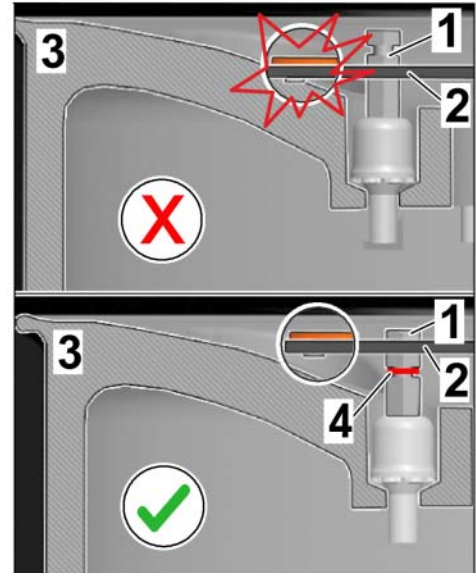

Figure 8
- Do **NOT** remove the red ring (⇒ Figure 8, item 4) in the groove on the spacer bolt!